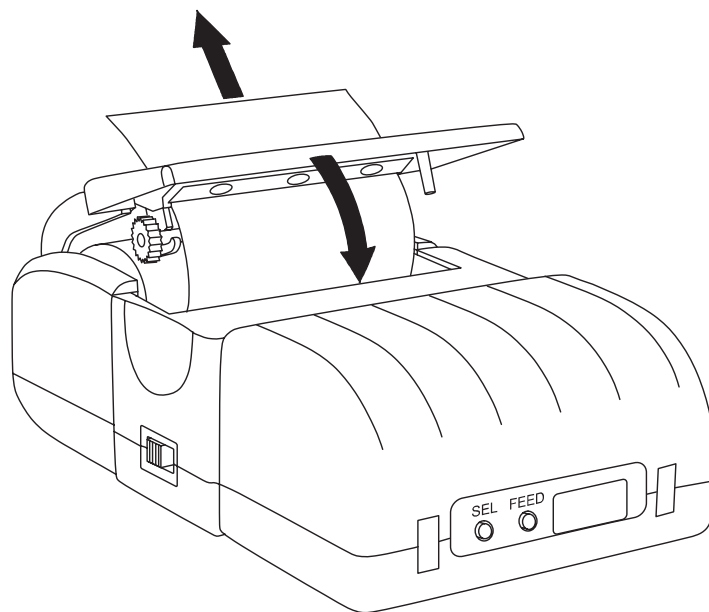

Figure 2. Installing the Paper
From underneath the printer, use your thumb and forefinger to push up on the paper cover until it releases from its latches (see Figure 2).
3. Drop in a new paper roll so that it will rotate in the direction shown in Figure 2.